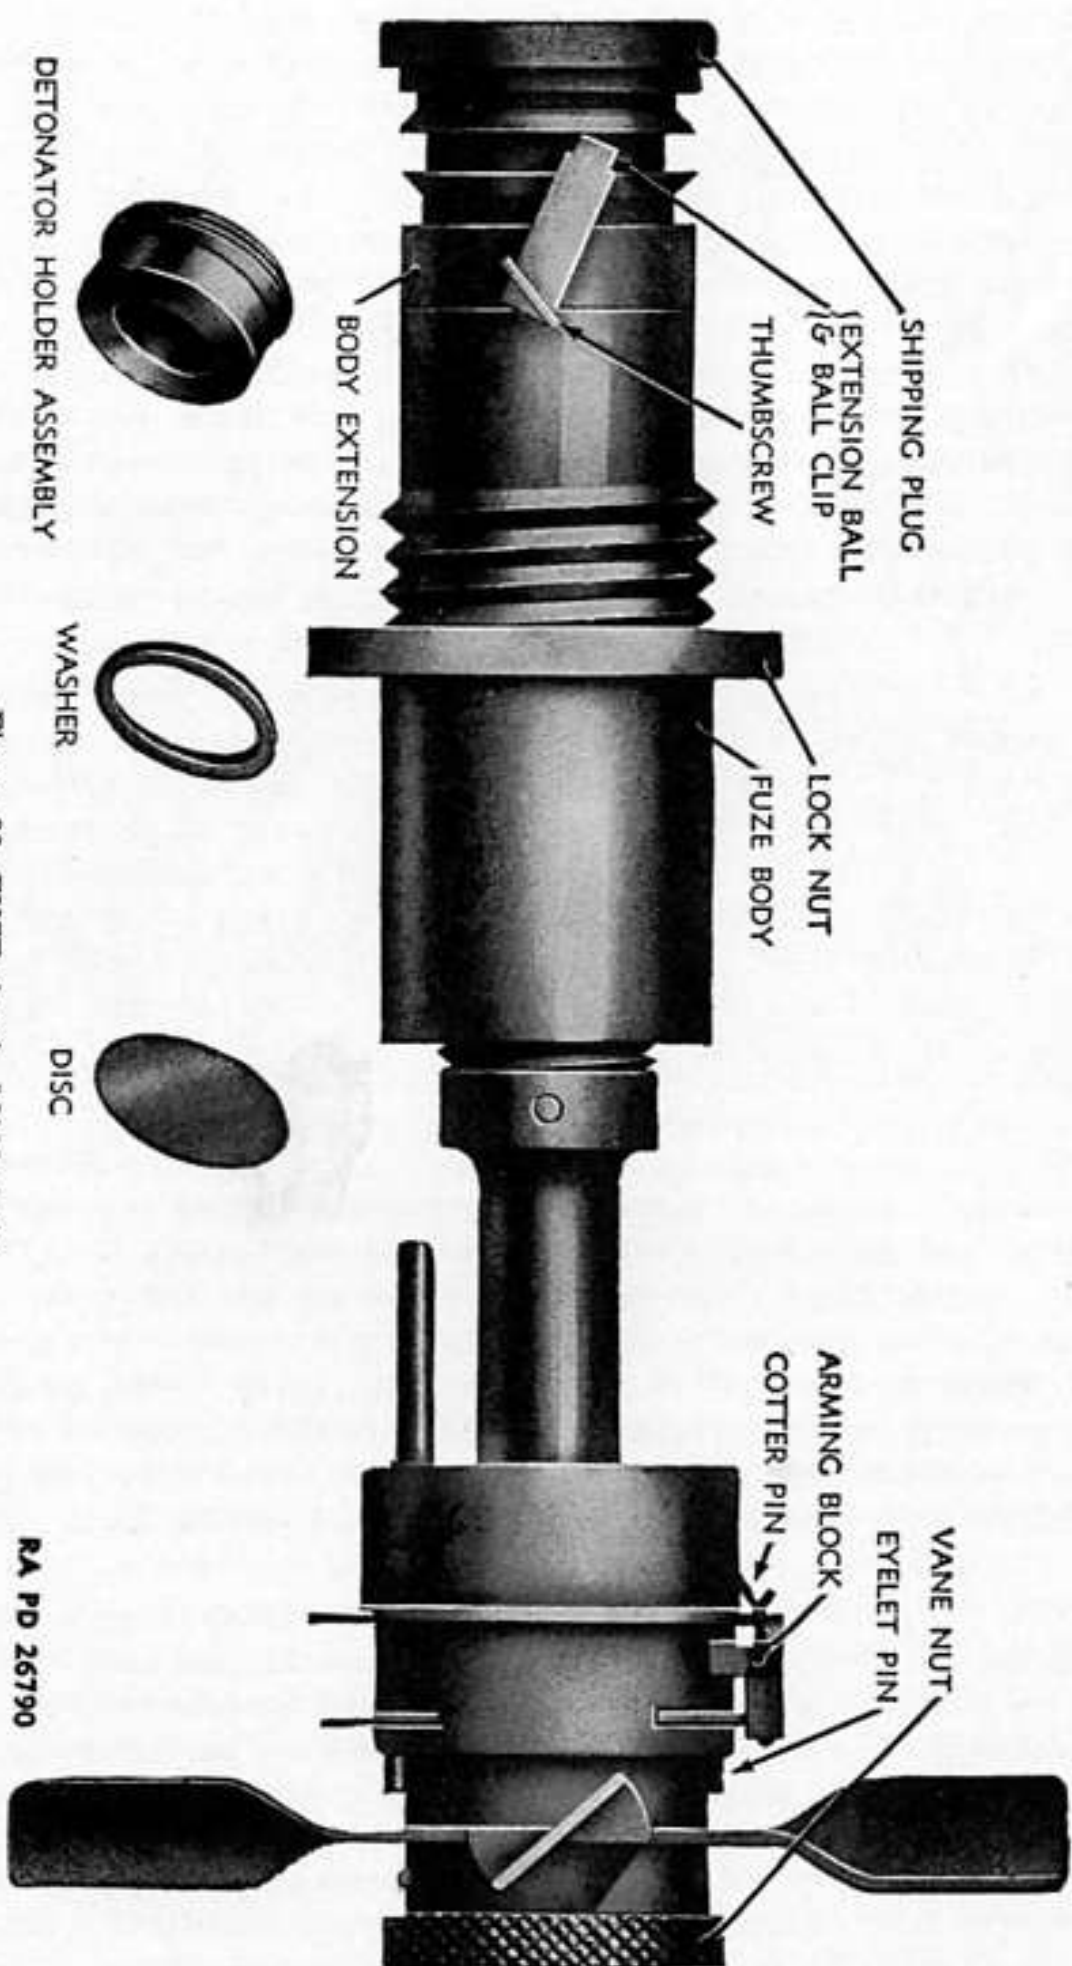

Figure 83. FUZE, bomb, M123 (tail).
(1) If the powder in the green-stoppered vial has melted, the fuzes have been exposed to temperatures higher than 150° F. None of the fuzes in the box will be used for low altitude bombing.
(2) If the powder in the red stoppered vial has melted, the fuzes have been exposed to temperatures over 170° F. No attempt will be made to assemble the detonators to the fuzes in the box. The fuzes will be destroyed.
e. **Preparation for use.** The detonator holder with disk and washer (fig. 83) must be assembled to the fuze, and the thumbscrew or safety clip must be removed before assembling the fuze to the bomb. The procedure is as follows: